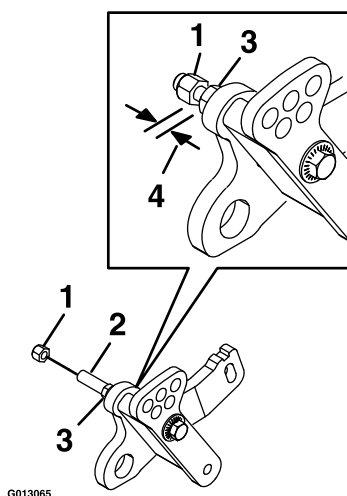

Figure 6
9. Install the side spring by placing the rear hook onto the screw. Install the nyloc nut and leave a 9 mm (0.35 inch) gap between the nyloc nut and whiz-lock nut (7/16 inch) as shown in Figure 6.